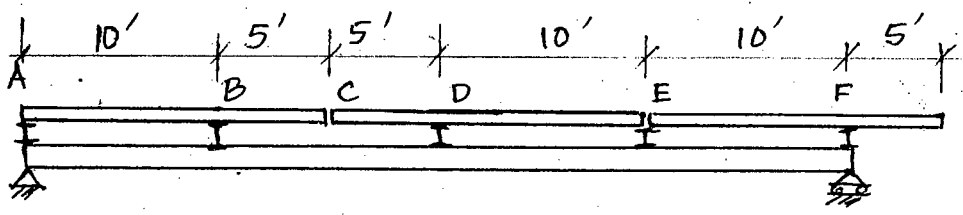

Fig. 3
3. For the floor beam system shown in Fig. 3, draw influence lines for (a) shear in panel DE; (b) moment at panel point E (21)